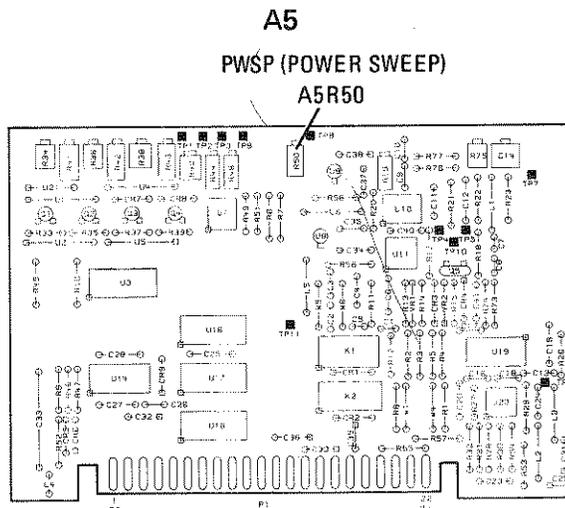

Figure 5-29. Location of Power Sweep Adjustment
5. While observing 8755C display of RF output, adjust A5R50 **PWSP** (power sweep) (Figure 5-29) for 10 dB/sweep.